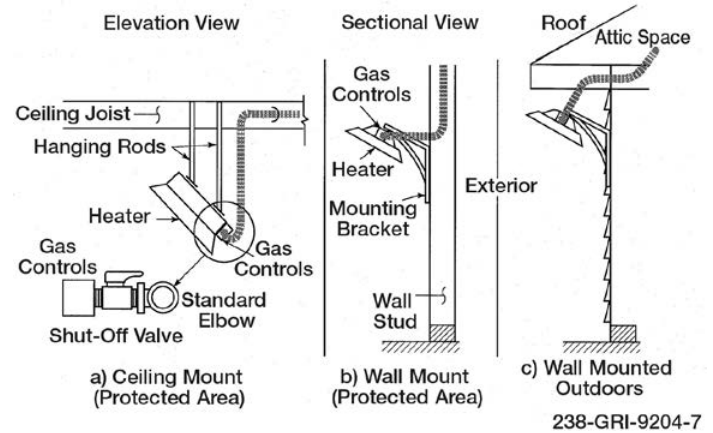

Fig. 4-71
- e) Infrared heaters (Fig. 4-71) that are solidly mounted to ceilings and walls of structures may be connected to the Gastite®/FlashShield® CSST system as shown in the figures below and in accordance with the manufacturers instructions. High Density infrared heaters generally fall into this category. Gastite®/FlashShield® CSST should be mounted to a fixed point and not on the end involved with the typical expansion and contraction associated with these heaters.